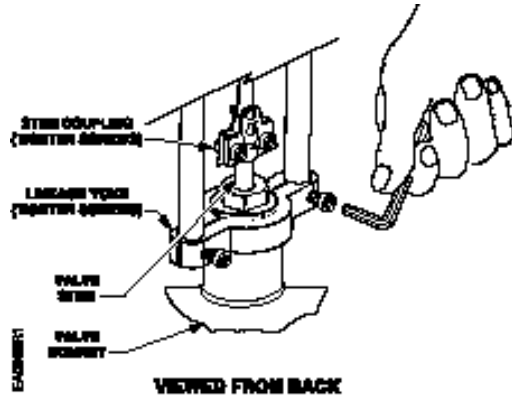

Figure 6. Connecting the Linkage Assembly on the Valve.
- Use the 1/4-inch Allen wrench to tighten the nuts in the linkage yoke and to secure the linkage on the valve bonnet. See Figure 6.